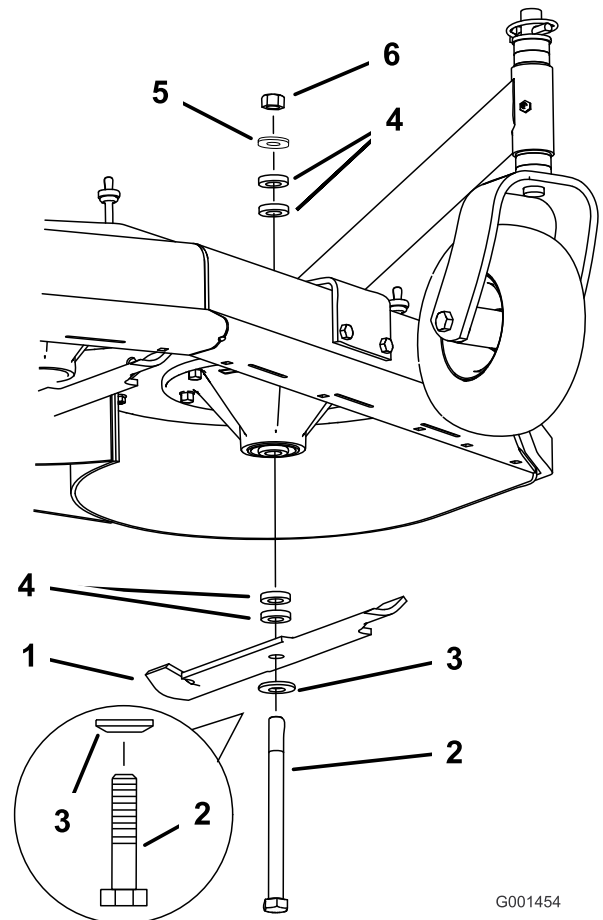

Figure 66
2. Remove the nut, blade bolt, curved washer, blade, spacers, and thin washer from the spindle (Figure 66).
1. Install the bolt, curved washer, and blade. Select the proper number of spacer(s) for the height-of-cut, and slide the bolt into the spindle (Figure 66).
2. Install the remaining spacer(s) and secure them with a thin washer and a nut (Figure 66).